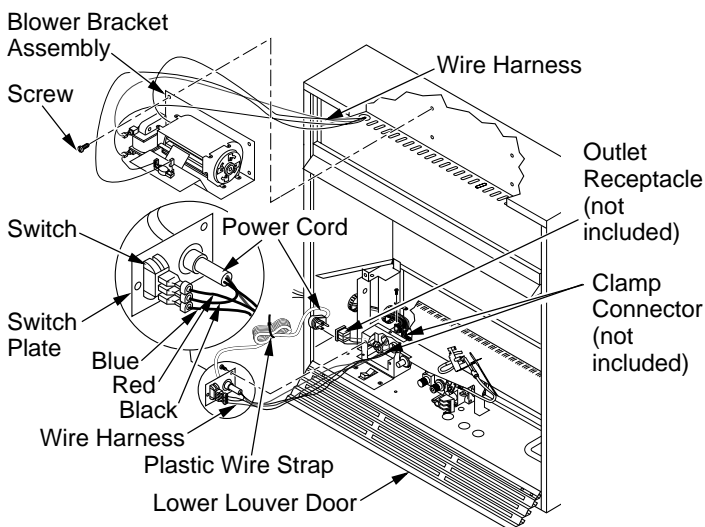

Figure 20 - Installing Blower Bracket Assembly
4. Plug power cord to the outlet receptacle (not provided) as shown in Figure 20. w in power cord and tie it up with the plastic wire strap (see Figure 20). Set the cable bundle between the burner bracket and outer casing, away from the burner.